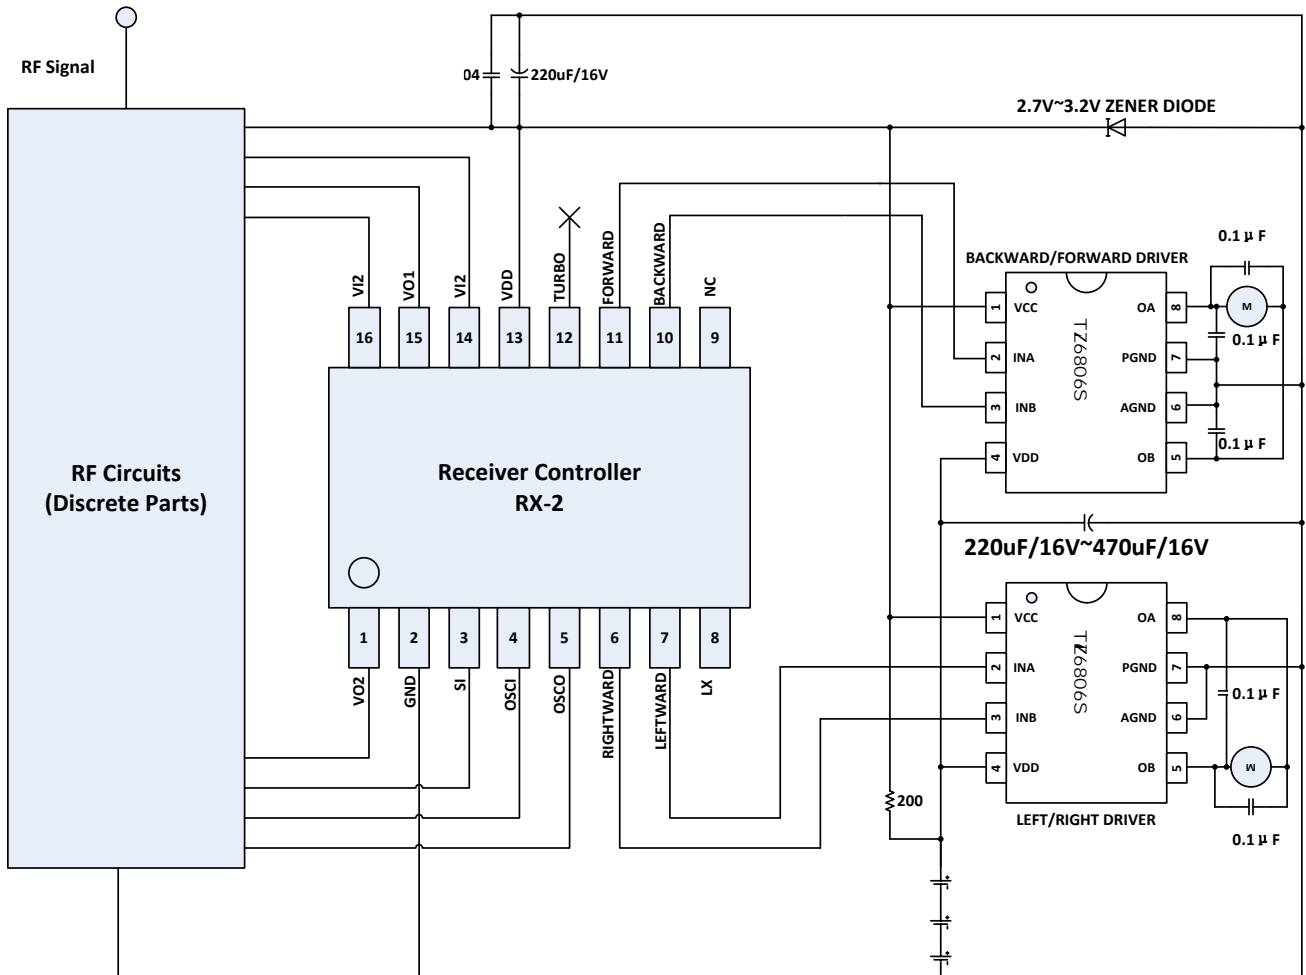

Fig. 2 Schematic diagram of application circuit for 4-battery operated remote control toy car
As shown in Fig.2, the schematic diagram of application circuit for 2-battery operated remote control toy car uses 2 TZ6806S circuits, which are used to drive the forward-and-backward steering motor and the right-and-left steering motor, respectively. Under normal conditions, RX2 power supply VDD utilizes voltage stabilizing diode design to make sure that the circuit operates at safety voltage. In order for RX2 to obtain a stable power supply, RX2 power supply
6. Current of front wheel steering motor is lower, and peak voltage generated by front wheel steering motor is lower than that by rear wheel steering motor. Due to higher supply voltage, it is still possible to cause the circuit to be damaged. It is suggested to connect capacitor 104 either between output terminals OA and OB, or as shown in Fig. 2.
7. In the case of 3-battery, determine if it is needed to connect capacitor for front wheel steering motor in light of actual conditions. For rear wheel steering, however, it is recommended to connect as shown in Fig. 2.